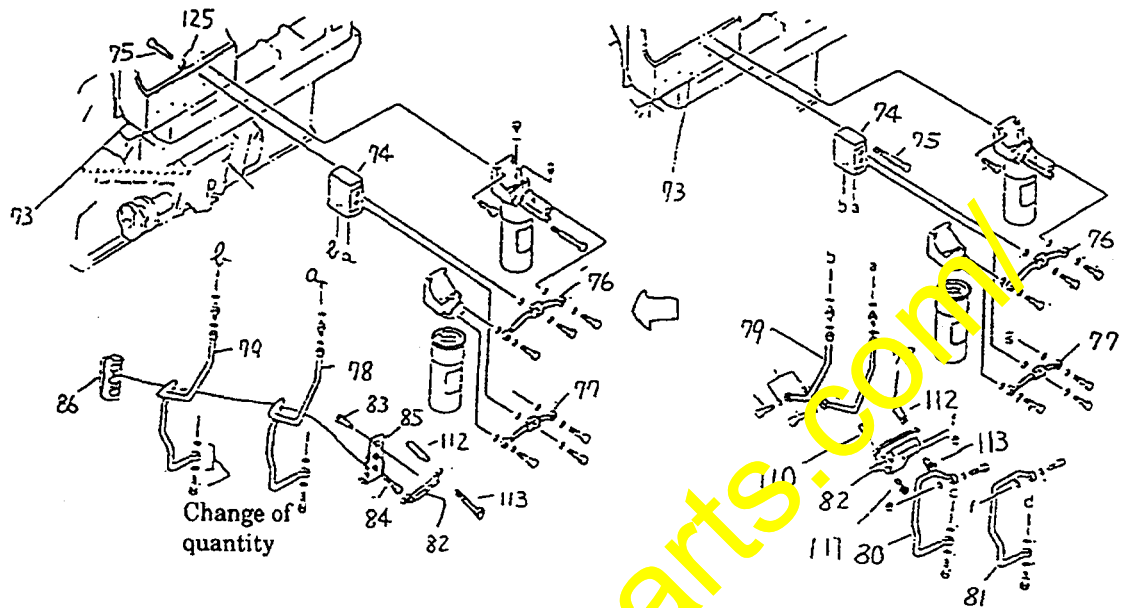
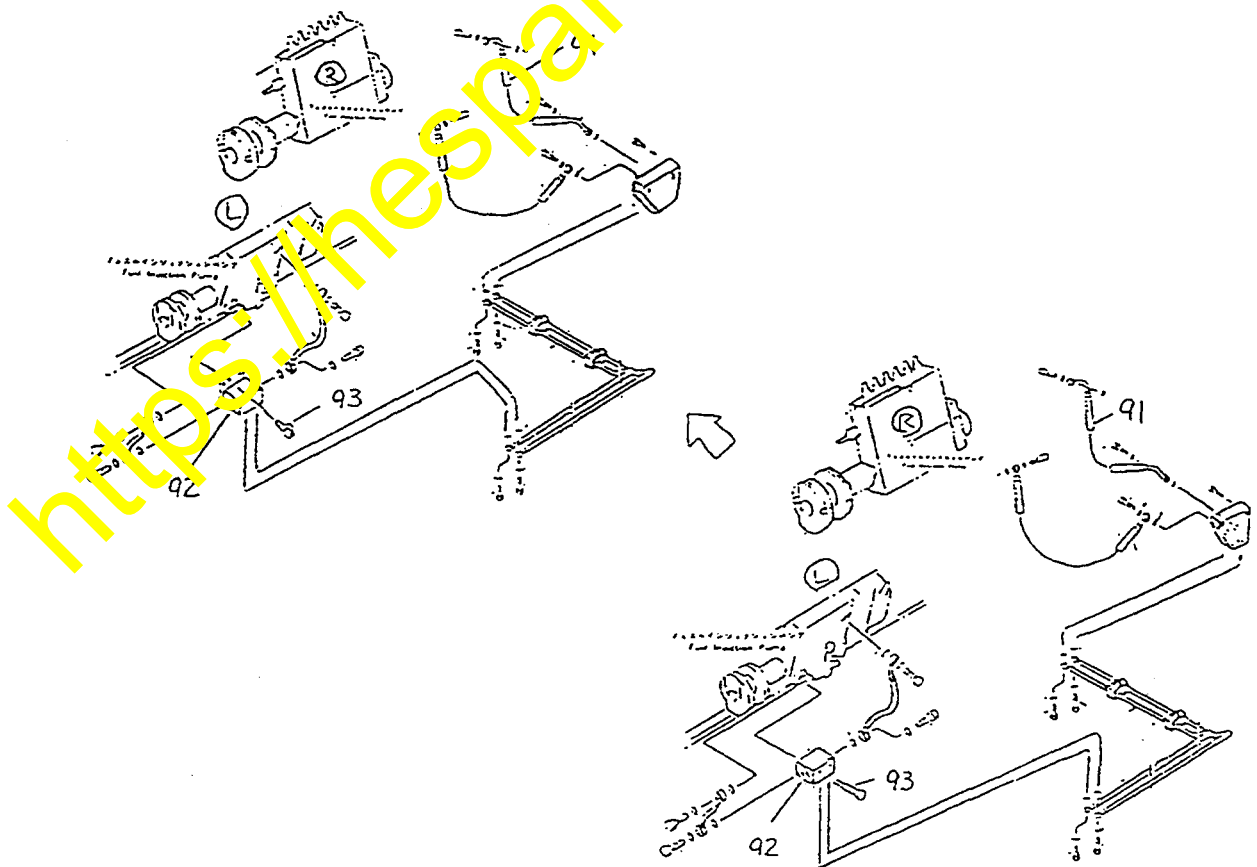

Fig 46
Fig. 47
⑭ Common fuel piping on W800A-2 (Fig. 46, Fig. 47)